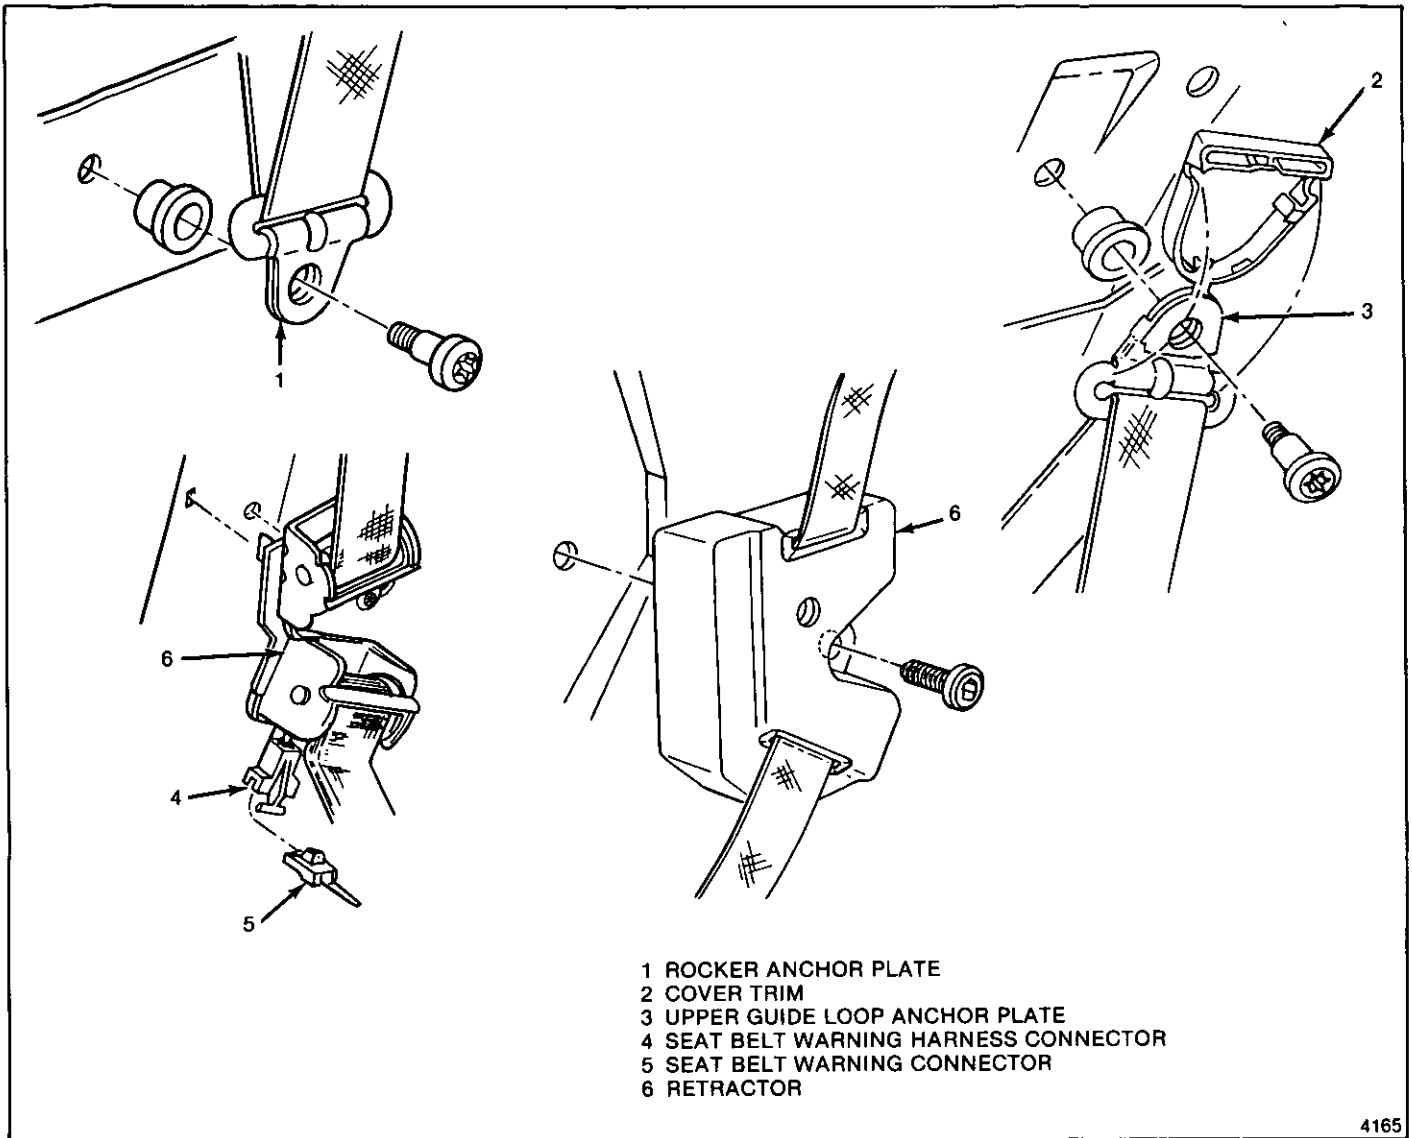

Fig. 9-1-Single Loop Belt System
- Refer to Figures 9-1 through 9-4 and tighten **all** seat and shoulder belt anchor bolts as specified.
### ↔ Remove or Disconnect (Figures 9-1, 9-2)
### ↔ Install or Connect (Figure 9-1, 9-2)